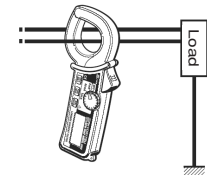

Fig. 1 Load current
- (1) Set the Range Selector Switch to the desired position. Current to measure should be within the selected measuring range.
- (2) Normal measurement (See Fig. 1, 2): Press the jaw trigger to open the transformer jaws and close them over one conductor only. Measured current value is shown on the display. Earth leakage current or small current that flows through a grounded wire can also be measured by this method.